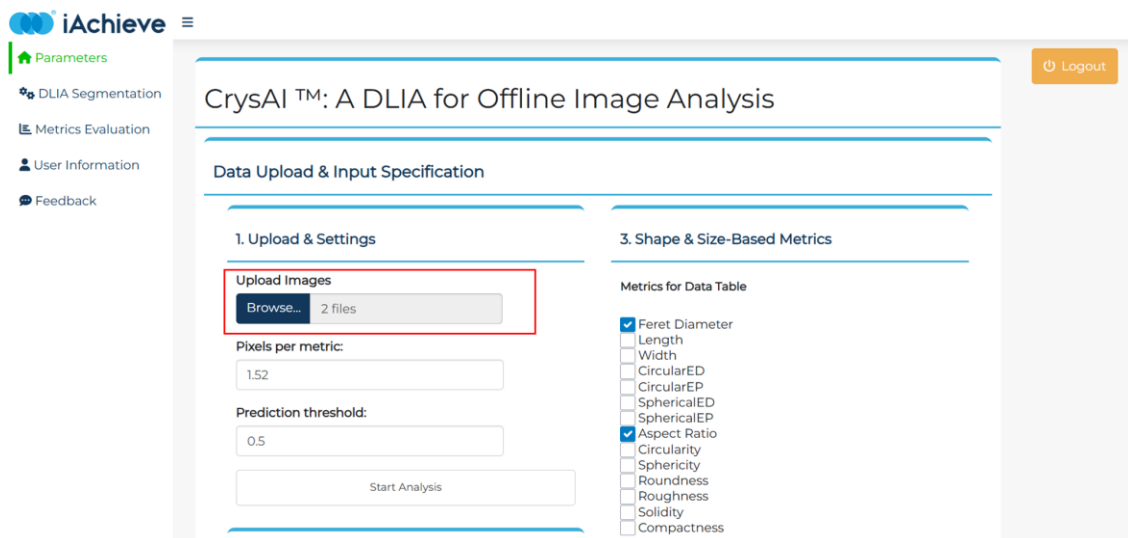

Figure 4 | Screenshot of Upload Panel with number of Image Files,
- 3) The number of image files added is displayed in the Upload Panel (Figure 4)
[Insert Figure 4: Screenshot of Upload Panel with Image Files Loaded]